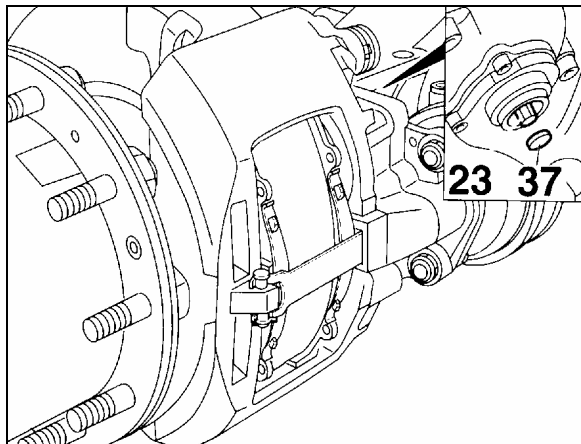

FIGURE 26: ADJUSTER PINION 12120
- Remove cap (37, Fig. 26).
- Using a box wrench (8 mm), turn the adjuster pinion (23, Fig. 26) counterclockwise about 2 - 3 clicks to increase running clearance. By operating the braking system
about 5 - 10 times (30 PSI or 2 bar), the wrench should turn clockwise in small increments if the adjuster is functioning correctly (Figs. 26 and 27).